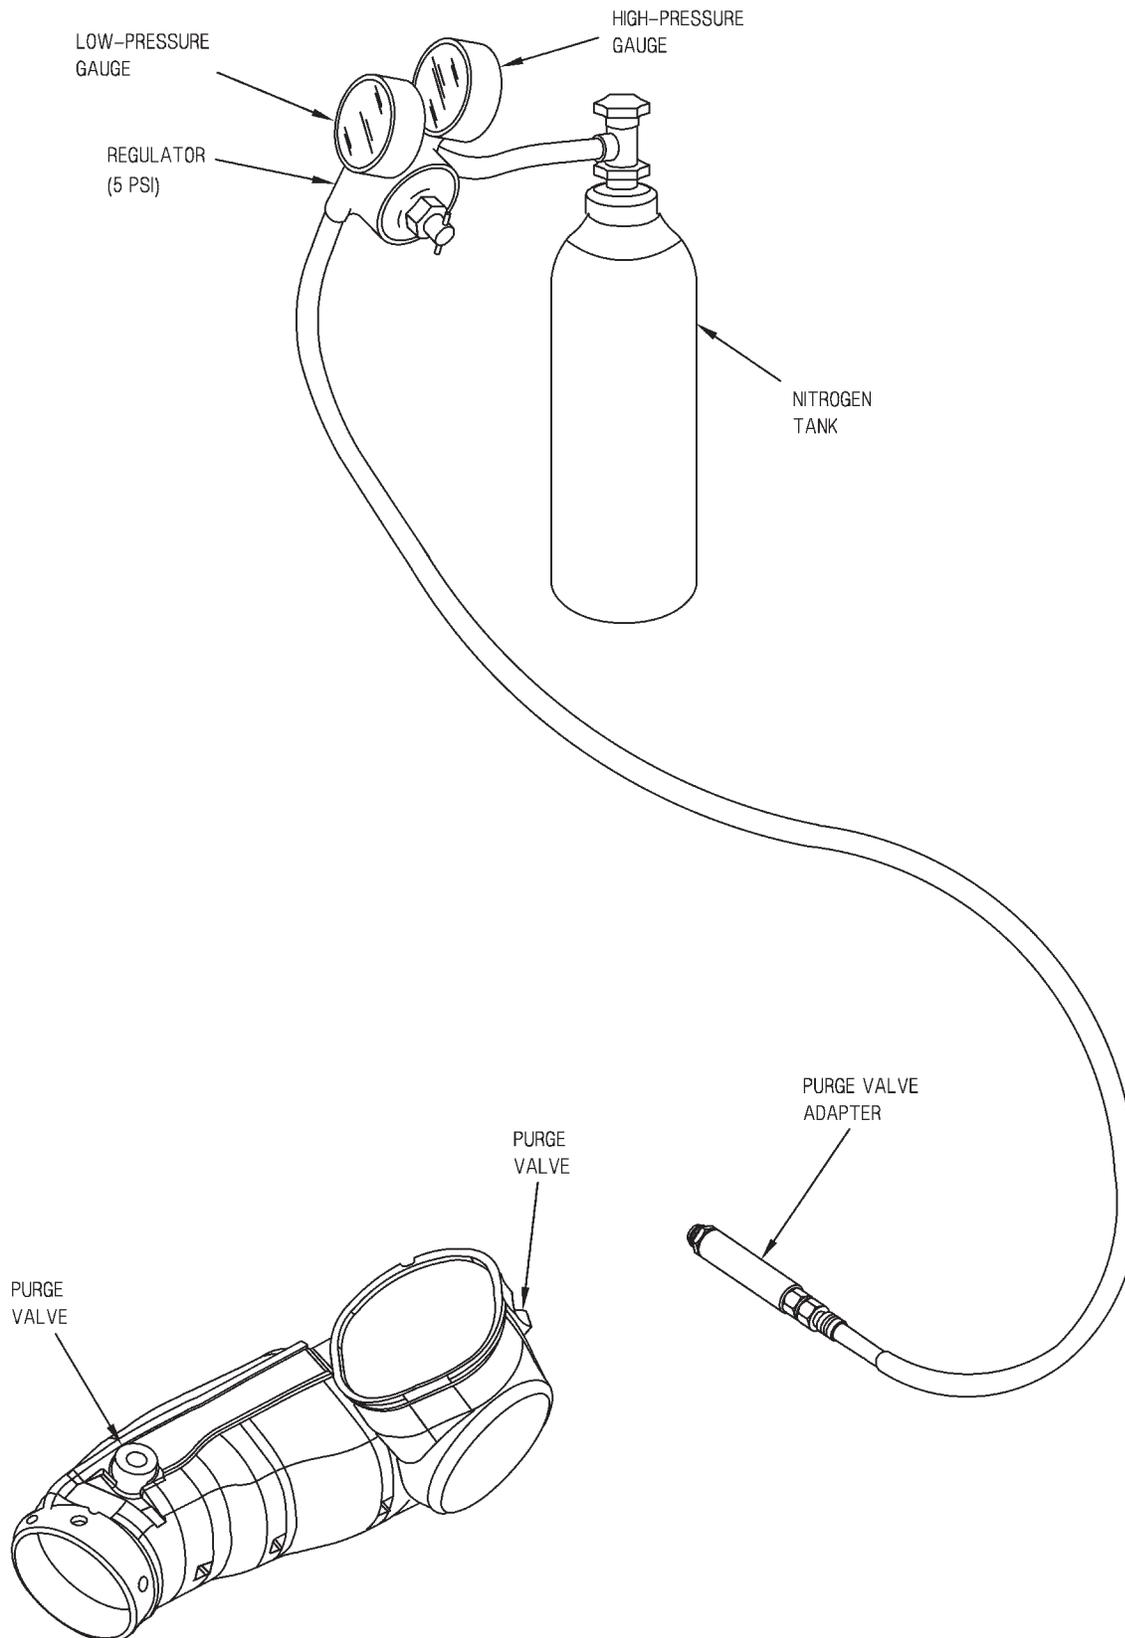

Figure 1. Purging Relay Optics Assembly
a. Connect pressure regulator to nitrogen tank per applicable regulator technical publication. Refer to figure 1.
f. Set up the relay optics assembly so the purge valve holes are facing up. Refer to figure 1.
o. Using hex flat tip, adapter, and torque screwdriver, tighten purge valve screws (1, sheet 2) until o-ring seal is closed. (QA)
- q. Disconnect pressure regulator from nitrogen tank. Refer to figure 1.
- s. Document per OPNAVINST 4790.2 series. (QA)